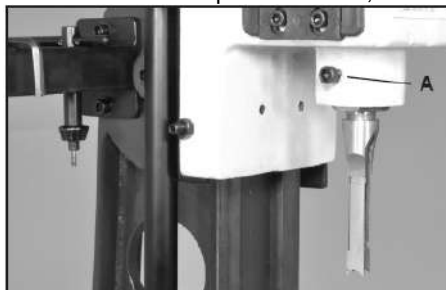

Fig 10
4. Tighten the bushing set screw to secure the chisel in place. FIG. 10, A.